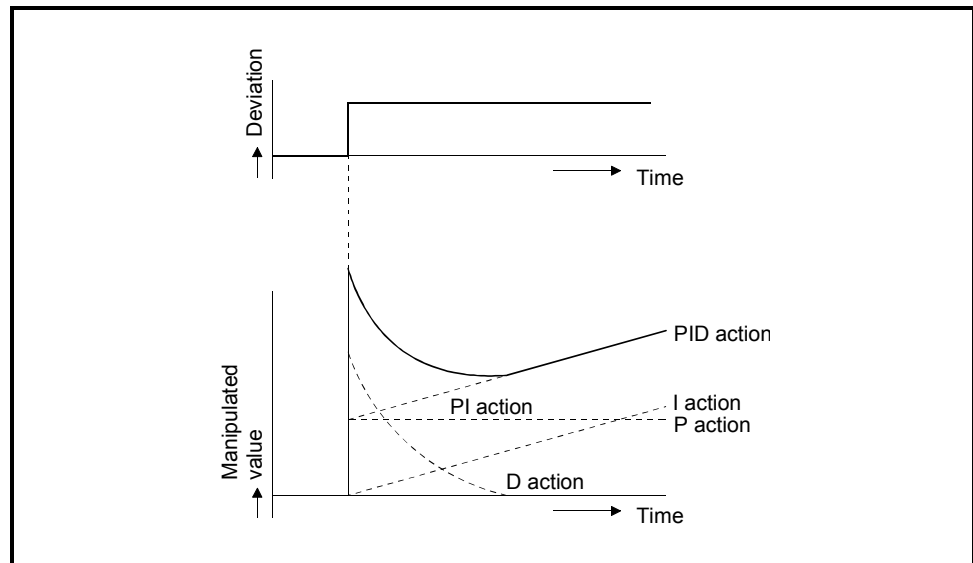

Fig. 1.10 PID action for step response
- (1) The PID action performs control using the manipulation value obtained by merging proportional action, integral action and derivative action.
- (2) The PID action for the step response when the deviation is constant is shown in Figure 1.10.